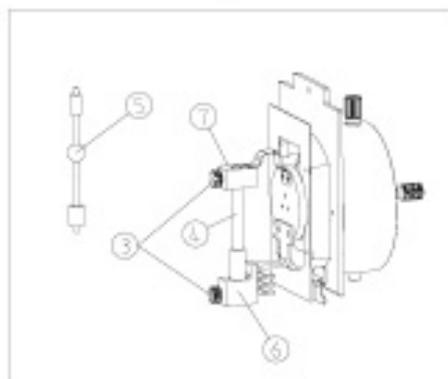

Figure 11
- (2) Loose the lock screw 3 for mercury bulb and take off the supporting pole 4. Insert the anode side (big side) on mercury bulb into the anode holder 6 and set negative holder on small side of bulb, then tight the screw 3. (Fig.11)
- (3) Put the bulb holder 2 into its house and tight the screw 1.